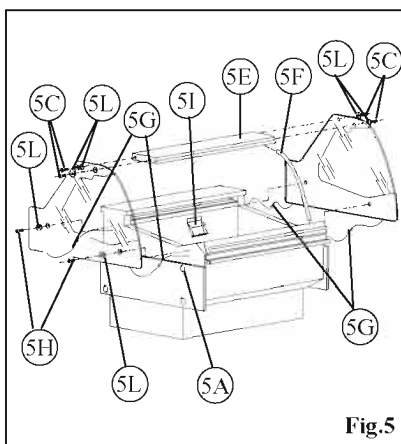

Fig.5
- remove the top from the packaging, using the hardware products in the package (fig. 5 - 5I) inside the display cabinet and follow these instructions to assemble:
- fit the side panels to the base and fix them with the screws (fig. 5 -5A)
- connect the fastons (fig. 5 - 5G) of the anti-condensation resistance of the side silkscreen printed glass panels and fix them to the tub by means of the screws (fig. 5 -5H) provided, and mounting the bushes provided (fig.5-5L).
- Fit the lead into the appropriate seat (fig. 5 -5F).
- fix the top (fig. 5 - 5E) between the two side panels, using the screws (fig. 5 -5C) provided, mounting the bushes provided (fig.5-5L).